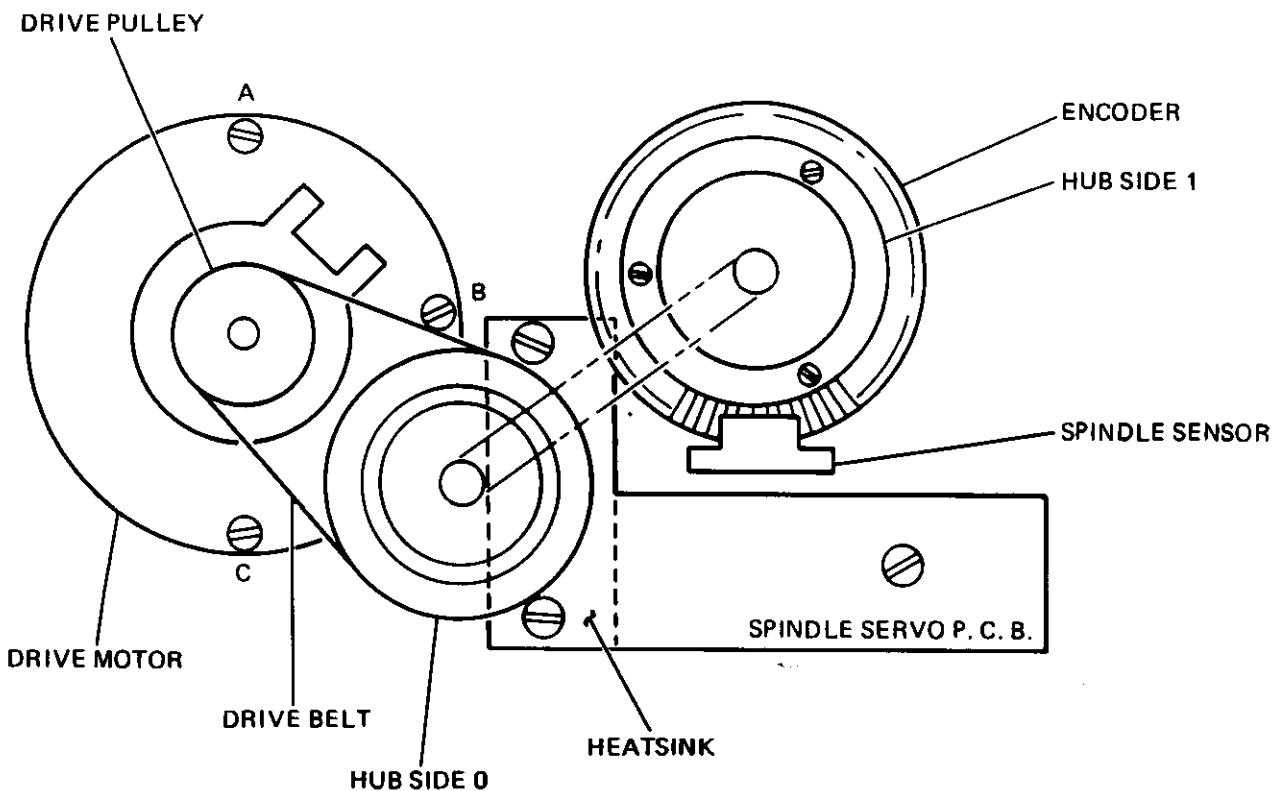

Figure 2-2. Drive System
The drive system comprises drive motor, belt, spindle sensor assembly, hub assembly and spindle servo electronics PCB. (Figure 2-2.)
- f. If the drive belt tracks too low, place a shim washer (PerSci Part No. 200081-001) between the drive motor and deck plate under Screw A. (Figure 2-2.)
- g. If the drive belt tracks too high, place shim washers (PerSci Part No. 200081-001) between the drive motor and deck plate under Screws B and C. (Figure 2-2), i. e., one washer at each point.
- b. Loosen three motor mounting screws. (Figure 2-2.)
The spindle sensor assembly is located on Side 1 of the deck plate (Figure 2-2) adjacent to the hub encoder disc. To replace, proceed as follows:
- e. Remove two flat head screws above the spindle servo heatsink. (Figure 2-2.)
The Diskette spindle assembly consisting of two hubs, shaft, two bearings, encoder disc and clamp ring, is not a replaceable assembly. (Figure 2-2.) If any part of this assembly is damaged, the faulty assembly must be repaired at the factory or depot equipped to do such repairs.